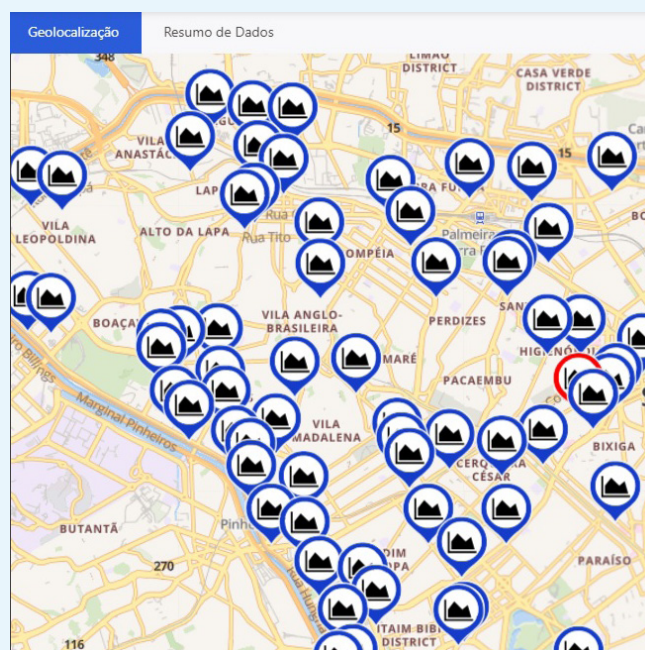

Figure 3. SABESP's water digital twin in Brazil streamlines complex water supply management.
- Water network optimisation:** The Brazilian utility, Sabesp, applied a water digital twin platform to manage one of the world's largest and most complex water supply networks (Figure 3).